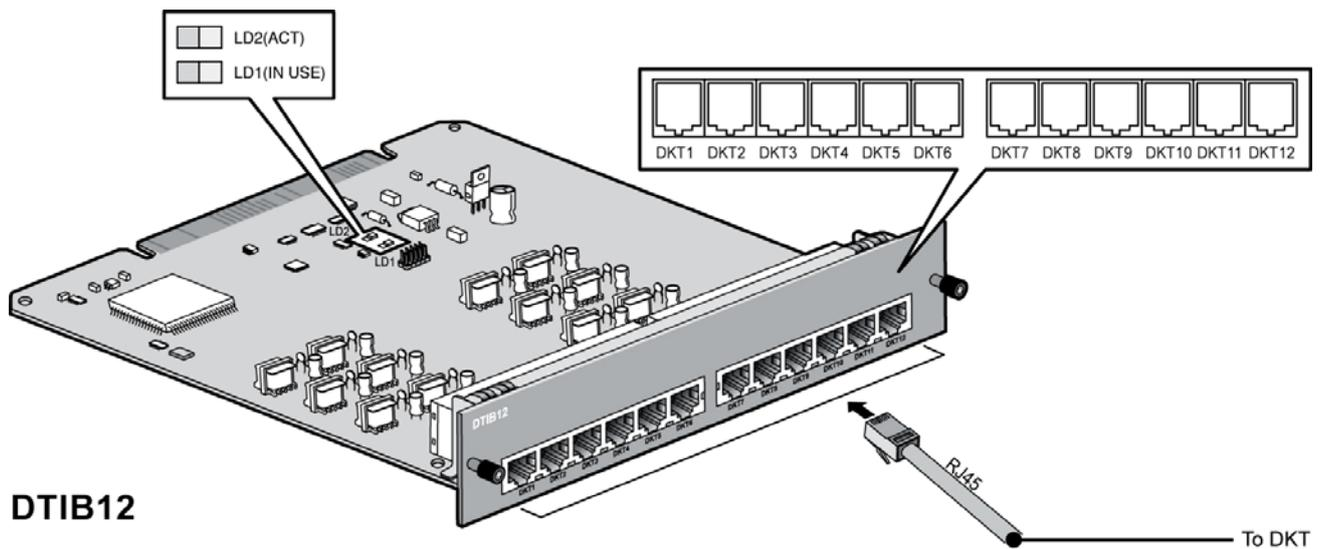

Figure 4.4.3A DTIB12
- DTIB 12: provide 12 ports (refer to Figure 4.4.3A)